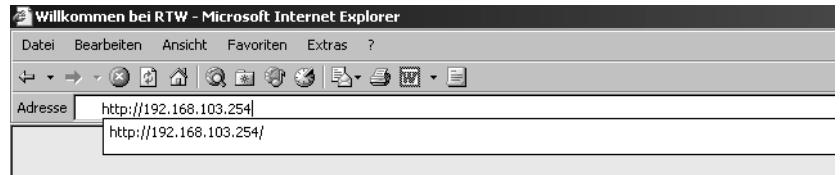

Fig. 8-26: Entering the IP-Adress
1. Start your internet browser and enter <http://192.168.103.254> in the address field (see Fig. 8-26) followed by the hit of the return (Enter) key.